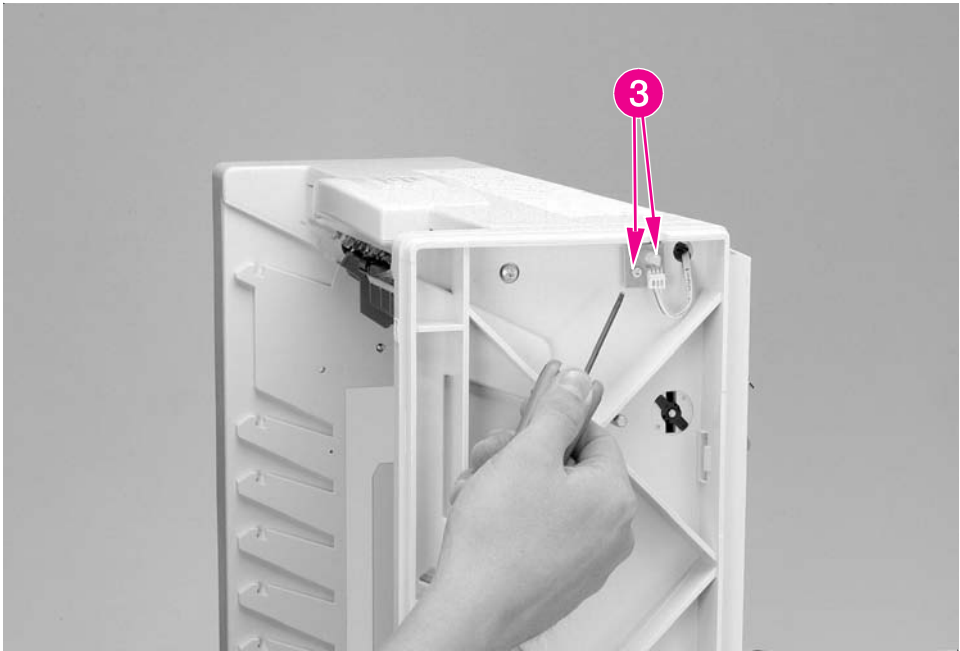

Figure 6-177 8-bin Mailbox User Status LED PCA (2 of 2)
- 3 Disconnect the cable from the User Status LED PCA (Figure 6-177, callout 2).